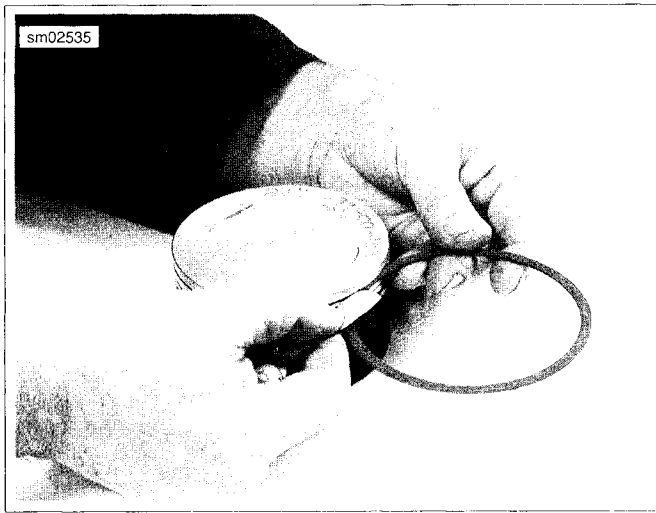

Figure 3-119. Measure Piston Ring Side Clearance
4. See Figure 3-119. Measure piston ring side clearance.